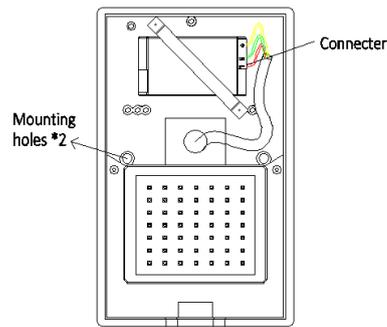

Figure 3
Step3: Connect electrical wires to the fixture by pulling wires from the outlet box into Electrical Cavity. Connect wire on unit to wires from outlet box See Figure 3. Remind the GND wire connected.